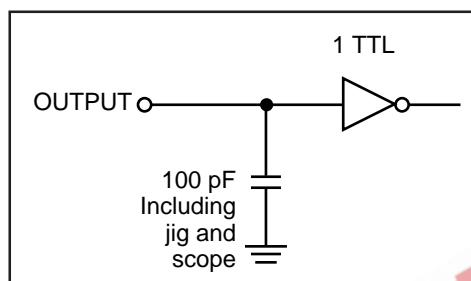

Figure 1
Output Load	See Figures 1 and 2
- Test conditions assume signal transition times of 5 ns or less, timing reference levels of 1.5V, input pulse levels of 0.4V to 2.2V and output loading specified in Figure 1.
- Test conditions assume signal transition times of 3 ns or less, timing reference levels of 1.3V, input pulse levels of 0.4V to 2.2V and output loading specified in Figure 1.